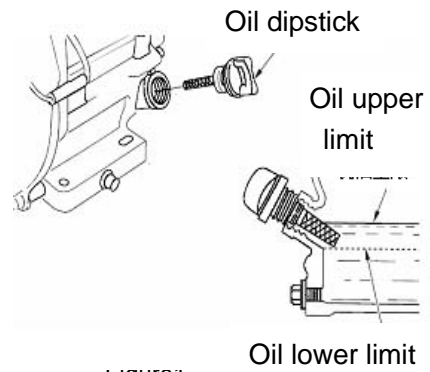

Figure 1
- (1) Put the generator on a horizontal ground surface.
- (2) Take out and wipe off the oil dipstick.
- (3) Insert fully the dipstick and then take it out and check the oil level.
- (4) If the oil level is close to or is lower than the lower limit mark of the dipstick, then screw off the oil filler cap and add engine oil of qualified grade until the oil level reaches the higher limit mark of the dipstick (see Figure 1).
- (5) Screw back and tighten the oil dipstick and oil filler cap.